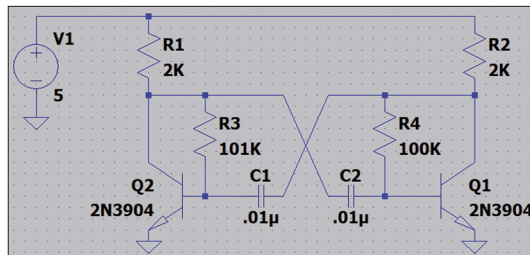

Figure 2.6 Example multivibrator circuit
Perhaps the easiest way to learn how to create a schematic is to go through an example circuit. The schematic we will be drawing is a multivibrator circuit (also known as an astable circuit), taken from the LTspice **Educational Examples** folder. The multivibrator is a simple square wave oscillator circuit with two transistors, four resistors, and two capacitors, and of course, a power supply (e.g. a battery). The actual operation of the circuit is not relevant at this stage, and the author assumes that most readers are familiar with multivibrator circuits. A step-by-step approach is given below that explains how to draw and then simulate the circuit shown in Figure 2.6.
- Click on the resistor symbol and place resistors R1, R2, R3 and R4 approximately at the same positions as in Figure 2.6 (See Figure 2.7). Press ESC on the keyboard or do a right-click to exit. You can zoom in or out by scrolling the mouse wheel. Move the drawing by pressing the left mouse button and keeping it pressed down. If you want to change the position of a